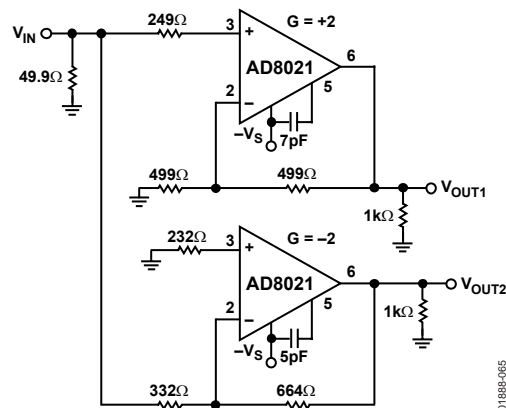
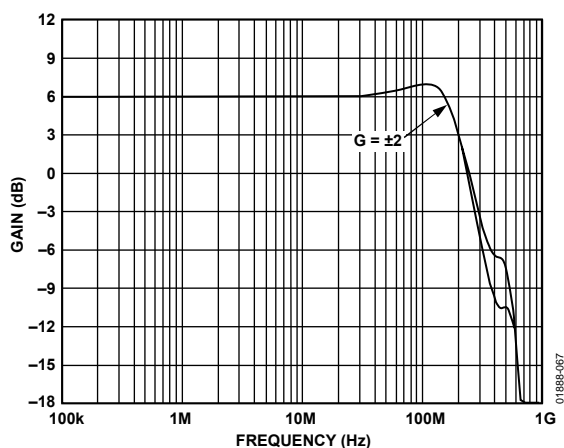

Figure 65. Differential Amplifier
Figure 67. AC Response of Two Dissimilarly Compensated AD8021 Op Amps (Figure 66) Configured for a Gain of +2 and a Gain of -2, (Note the Close Gain Match)
- Match bandwidth in gain blocks with different noise gains, such as when designing differential amplifiers (as shown in Figure 65).
Figure 65 illustrates an inverter-follower driver circuit operating at a gain of 2, using individually compensated AD8021s. The values of feedback and load resistors were selected to provide a total load of less than 1 k $\Omega$ , and the equivalent resistances seen at each op amp's inputs were matched to minimize offset voltage and drift. Figure 67 is a plot of the resulting ac responses of driver halves.